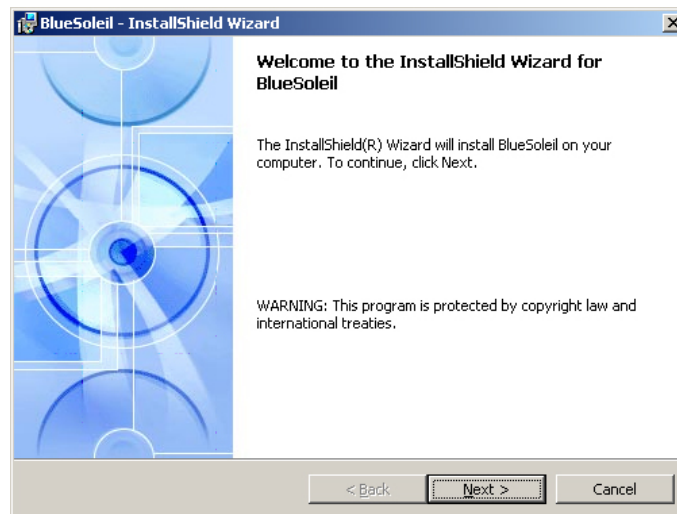

Figure 7-47: Welcome Screen
Step 10: A welcome screen appears (Figure 7-47). To continue the installation process click **NEXT**.